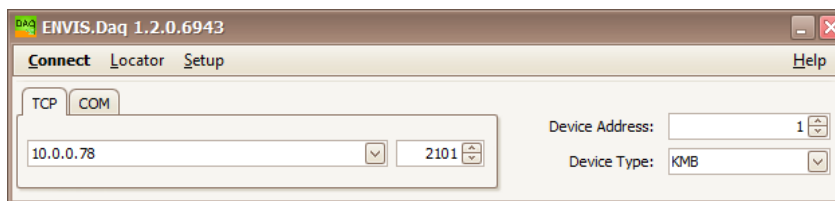

Figure 7: Main window of the ENVIS.Daq application - enter communication type, choose its parameters and click *Connect* to continue.
4. Fill in communication line parameters. A connection form with typical parameters is shown in figure 7.